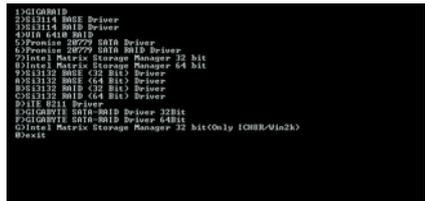
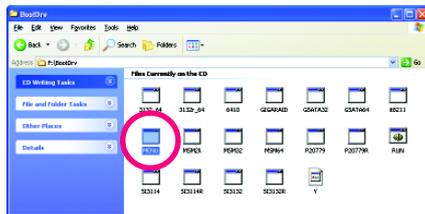

Figure 2
Figure 3
Step 2: When the controller menu (Figure 2) appears, remove the startup disk and insert the blank formatted disk. Select the controller driver by pressing the corresponding letter from the menu. For example, from the menu in Figure 2, select **7) Intel Matrix Storage Manager 32 bit** for Windows 32-bit operating system or **8) Intel Matrix Storage Manager 64 bit** for Windows 64-bit. Your system will then automatically zip and transfer this driver file to the floppy disk. Press <0> to exit when finished.
(Note) For users without a startup disk: Use an alternative system and insert the motherboard driver disk. From your optical drive folder, double click the **MENU.exe** file in the **BootDrv** folder (Figure 3). A command prompt window will open similar to that in Figure 2.